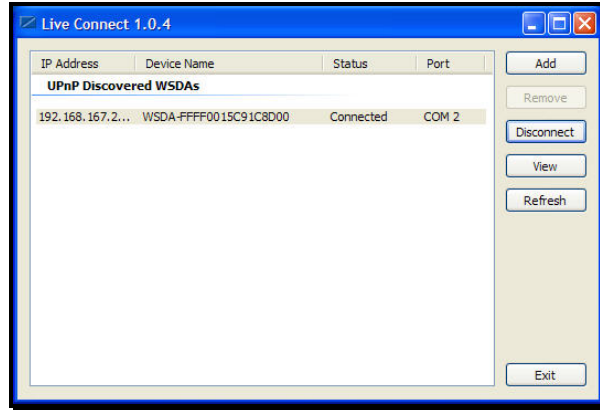

Figure 5. Live Connect window
- The example in Figure 5 shows a WSDA[®] connected on COM 2.